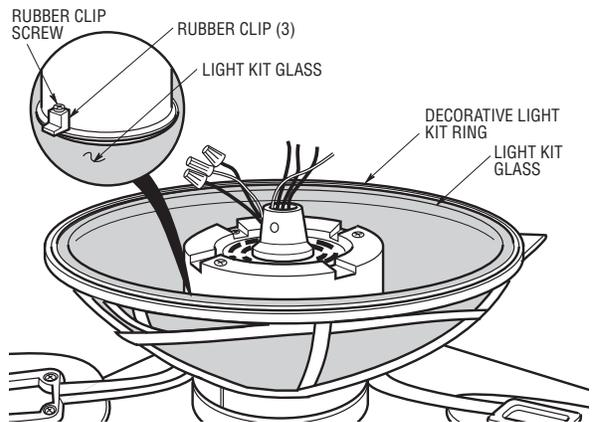

Figure 7
- 13. Gently place the light kit glass into the decorative light kit ring (Figure 7).
- 14. Rotate the rubber clips to secure glass into place. (Figure 7). You may need to tighten the screws on the rubber clips to secure.